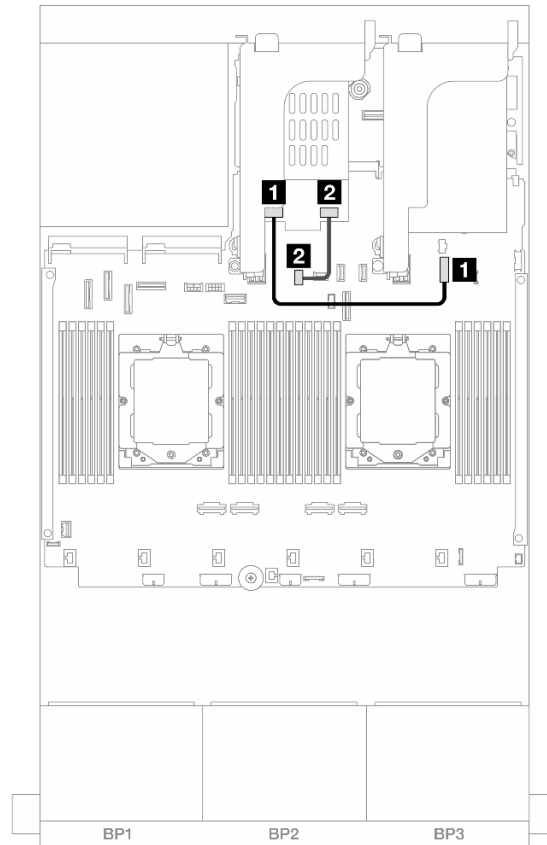

Figure 322. NVMe cable routing
- Figure 322 “NVMe cable routing” on page 370